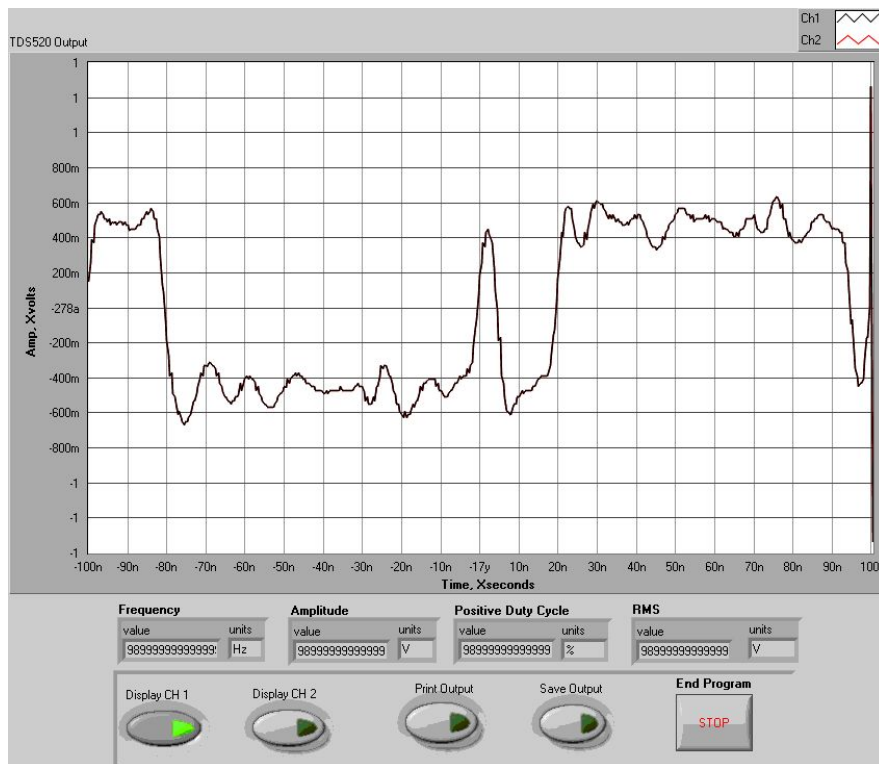

Figure 1 Typical Frame With No Data
6. Trigger oscilloscope on pin 3 of jumper JP-2, Frame Clock. Signal should appear as shown in figure 1. This is the output of the HDMP-1022 transmitter chip.